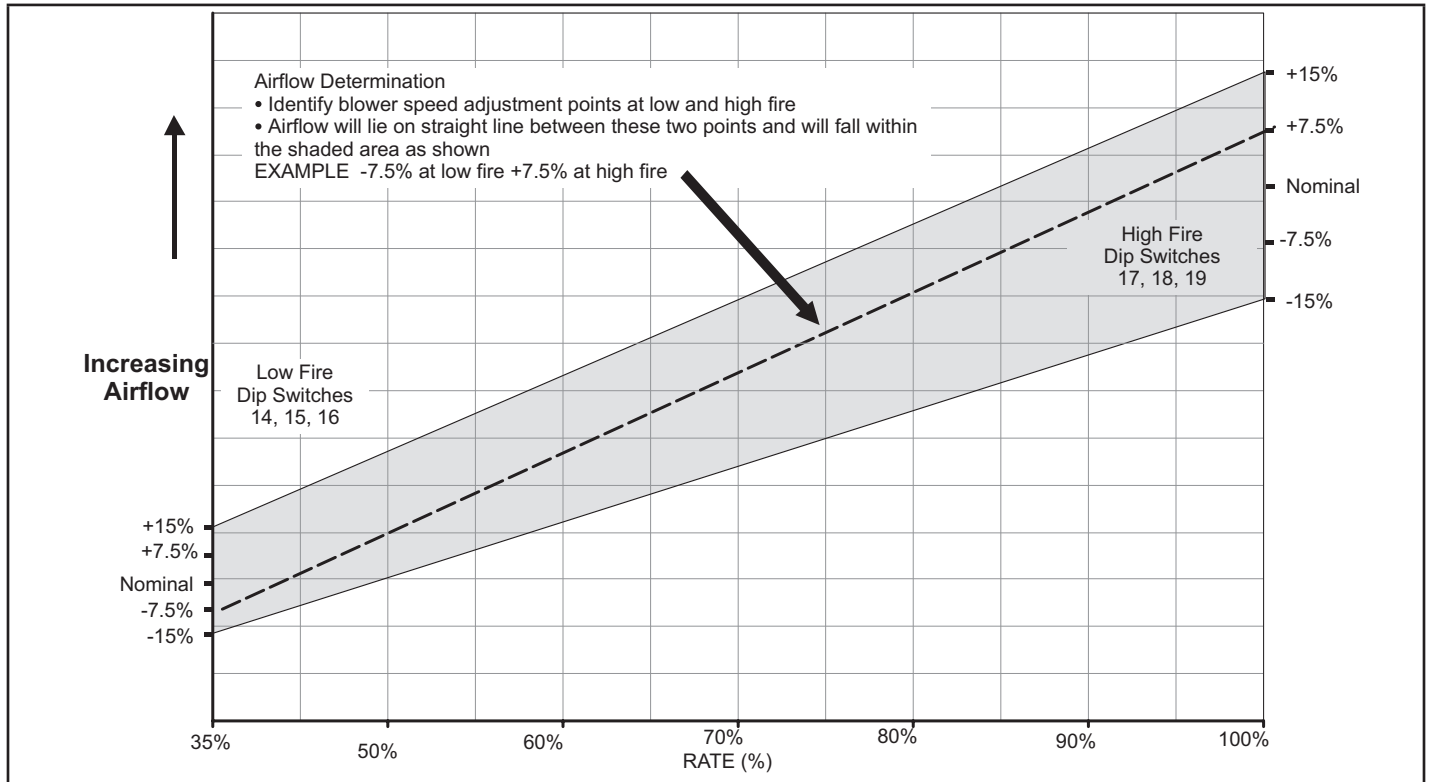

FIGURE 6
-- Switches 14 through 19 are used to select heating mode blower motor speeds. These switches are factory set at the OFF position which provides 100 % of normal speed during HIGH HEAT demand, 70% of normal speed during MIDRANGE HEAT demand and 40% of normal speed during LOW HEAT demand. Switches 14, 15 and 16 are used to adjust the LOW FIRE blower motor speed. Switches 17, 18 and 19 are used to adjust the HIGH FIRE blower motor speed. FIGURE 6 and TABLE 9 and TABLE 10 provides the heating mode blower speeds that will result from different switch settings. FIGURE 6 indicates the effect the DIP switch settings have upon the heating airflow at various furnace firing rates. Refer to blower tables at the front of this manual for corresponding cfm values.